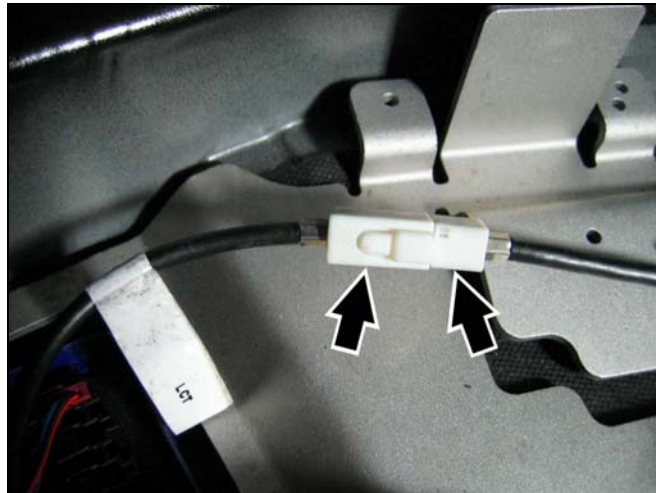

Figure 6
2. At the right side of the electronics compartment, disconnect the Tele Aid antenna lead from the main antenna lead (Figure 6).